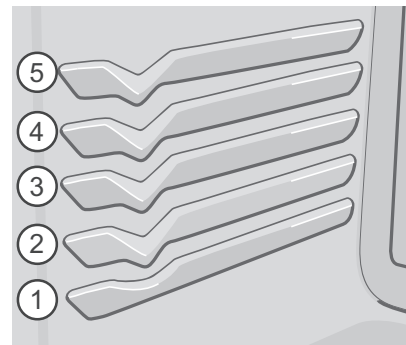
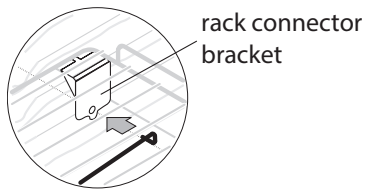

Figure 19: Rack positions
Figure 20: Bracket must be at rear of the range
The Effortless™ Oven Rack system can be used in oven rack positions 1, 2, or 3 (Figure 19). Placing any oven rack in any other position will prevent the oven door from fully closing and may damage the oven door, oven cavity, or the door connector brackets.
4. Place the oven rack in positions 2, 3, or 4 only (Figure 19). Be sure the rack connector brackets are at the rear of the range and pointing towards oven bottom (Figure 20).